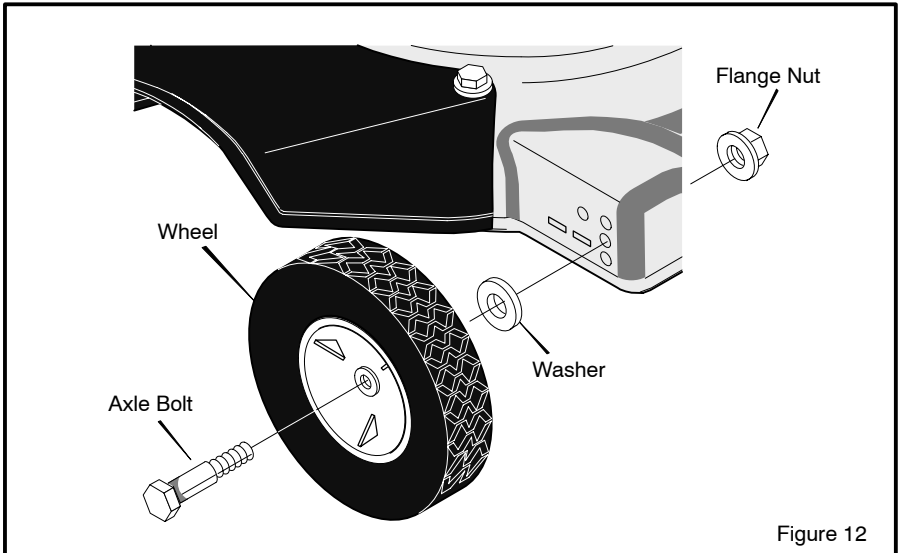

Figure 12
2. Remove the **flange nut** (Figure 12).